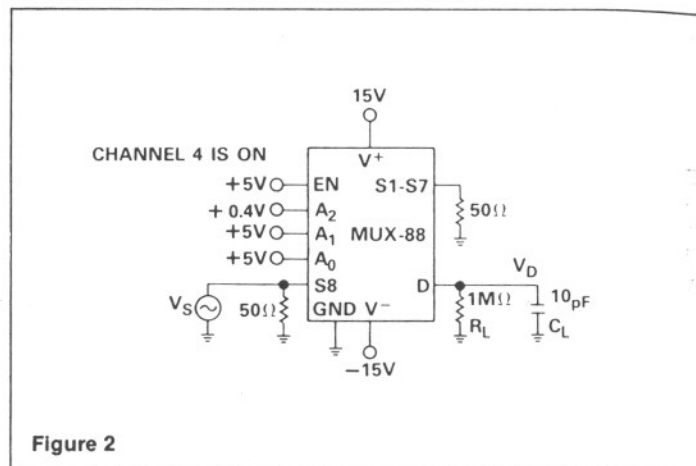

Figure 2
- Crosstalk is measured by driving channel 8 with channel 4 ON.  $R_L = 1M\Omega, C_L = 10pF, V_S = 5V$  RMS,  $f = 20kHz$ . (See Figure 2)